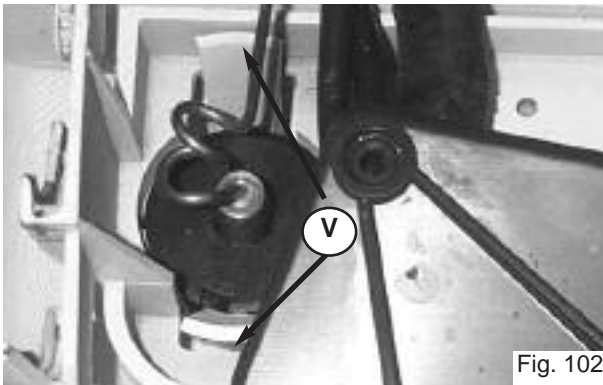

Fig. 102
2. Remove the pressure gauge by releasing the two clips **V** and pulling the pressure gauge out. (see Fig. 102)